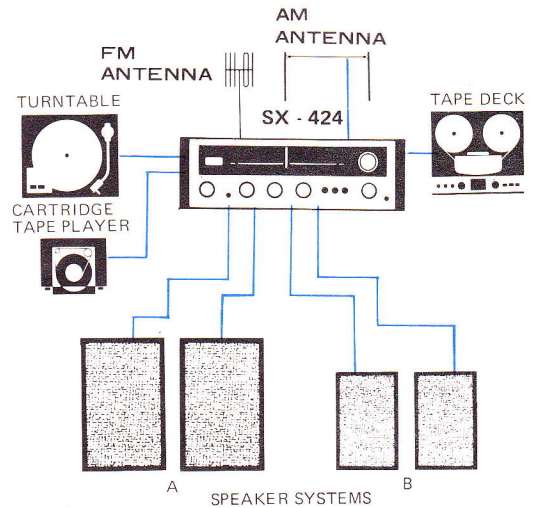

Fig. 2
- Model SX-424 is a Stereo Receiver. To obtain a complete stereo system, it can be combined with 2 or 4 speaker systems, 1 turntable, 1 tape deck, etc. See Fig. 2.